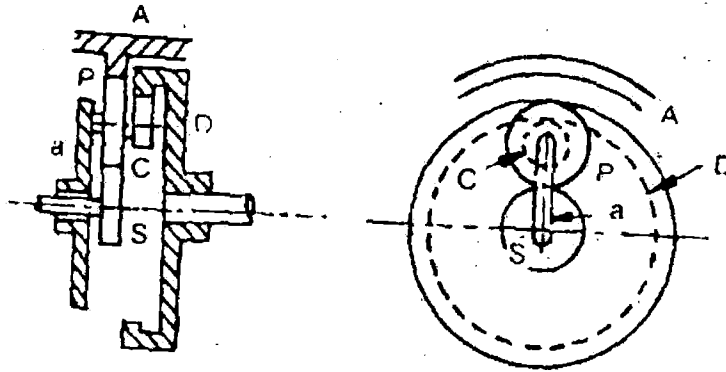

Fig. 14 (b)
- (b) An epicyclic gear train is shown in Fig. 14(b). The input S has 24 teeth. Gears P and C constitute a compound planet having 30 and 18 teeth respectively. If all the gears are of the same pitch, find the speed ratio of the gear train assuming A to be fixed.